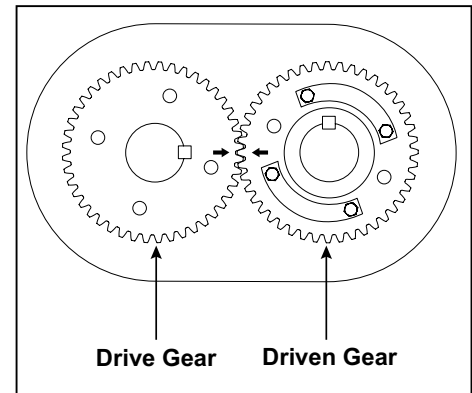
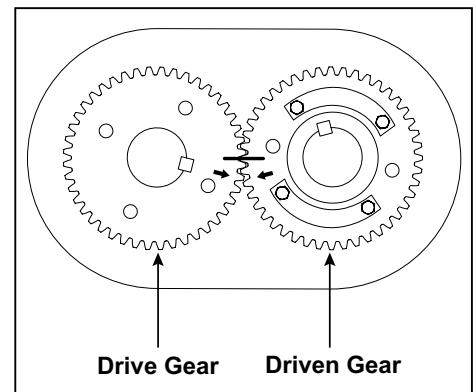

Figure 7A. Timing Marks Matched
Figure 7B. Timing Marks Advanced 3 Teeth (Reference Marks Aligned)
1. Remove unit from installation and drain lubricant from both ends by removing magnetic drain plugs (31). Mark end plates, covers and housing so they can be reassembled in their original position.
2. On 90/91 series boosters only, remove three socket head screws (111) and dust plate (82). Requires 1/8” hex head (Allen) wrench. Using same wrench, loosen three set screws (90) and remove seal retainer (89).
3. Remove four socket head screws (93). Requires 5/32” hex head (Allen) wrench. Place two of the screws in tapped jacking holes and remove seal housing (91). Tap out seal and discard O-rings.
4. Remove gear cover cap screws (26) and gear cover (6) by placing two of the screws in the tapped jacking holes provided on the cover flange. Support cover with lift straps or other suitable means while removing. The jackscrews will provide the force necessary to break the seal between cover and end plate.
5. Temporarily secure end plate to housing with two screws (26) and some flat washers. Remove four nylok screws (66) from drive shaft (45). A light tap with a mallet will break it loose from the drive gear.
6. On 90/91 series boosters only, remove mating ring of mechanical seal (54).
8. Bend back lock tabs and remove cap screws (29), lock (59), washers (25), and spring pins (68).
9. Position timing gears (8) so both timing marks are matched. See Figure 7A. Rotate drive gear clockwise approximately three teeth and mark a matching reference line on each gear as shown in Figure 7B. This gear position is necessary so rotors will clear and not jam. Using a gear puller with a live center or a centering adapter, large enough so it will not jam into threaded hole, pull driven gear, while keeping matched reference line marks aligned. Use a slight rocking motion to insure rotors have not jammed. Should jamming occur, release pressure and tap gear back on until it rotates freely. Pull mating gear.
7. Install bearing retainer plates (14) and secure with cap screws (30).
8. Check clearance between the face of the end plate and rotor lobes. Refer to clearance table on page 15 for correct gear end clearances. If clearances are not within specifications, recheck parts to find cause of improper clearances before proceeding. Install keys (24) in rotor shaft keyways.
9. Lubricate shafts and keys and press drive gear (right hand helix) on drive rotor. To install driven gear, align reference marks as shown in Fig. 7B on page 12. Tap gear with mallet to start then press the gear until seated. NOTE: All timing gears must be used in sets as they are matched and serially numbered.
10. Install roll pins (68), washers (25), lock tabs (59) and shaft bolts (29). Bend over lock tabs. NOTE: These bolts are structural bolts, not standard cap screws. Therefore they have a larger body diameter and this centers the washers and slinger. Do not replace with standard cap screws.
12. 90/91 series: Place a small bead of an RTV silicone type sealer around the periphery of the housing (3) bores, but inside the bolt pattern. Encircle the dowel pins. Install rotor housing and temporarily secure to end plate with two cap screws (26) and some flat washers. Check clearances between end of lobes and housing using a flat bar and feeler gauges or a depth micrometer. Refer to exploded view for free end clearances.
15. Install oil retainer rings (14) and cap screws (30). Install roll pin (68) washers (25), oil slinger (20) (on drive rotor), lock tabs (59) and bolts (29). Bend over tabs.
16. Install mounting feet (304) with machined surface against housing and secure with lockwashers (80) and cap screws (307). Install lifting lugs (195) with cap screws (196).